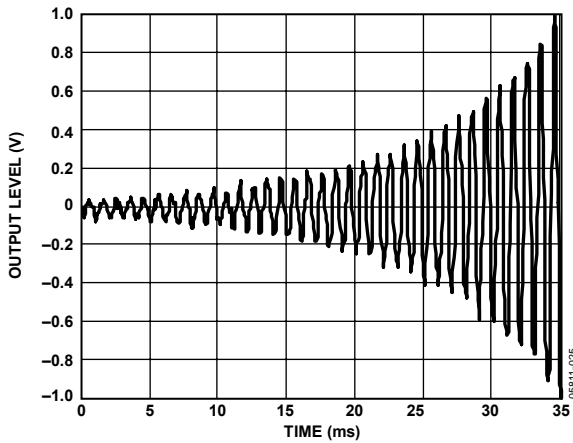
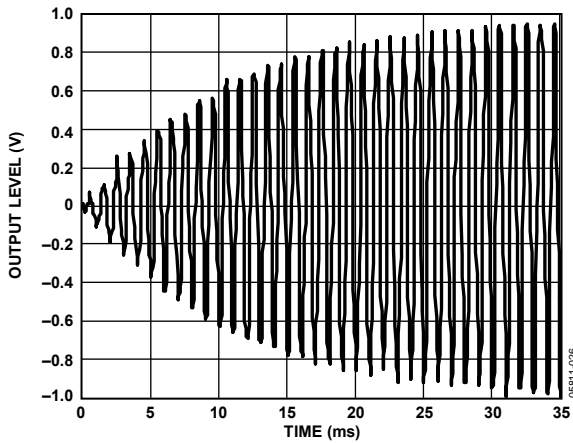
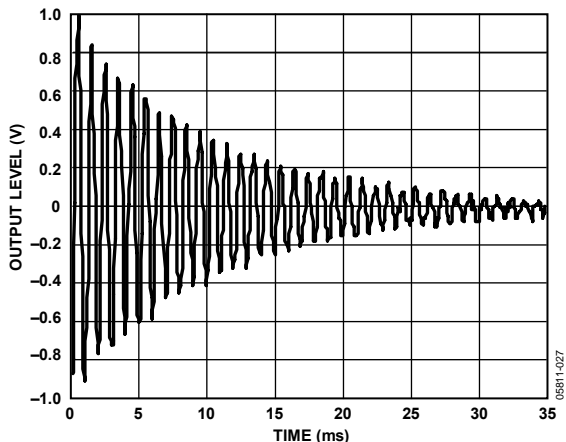

Figure 25. Slew RAM—Constant dB Update Increasing Ramp
Figure 26. Slew RAM—RC Update Increasing Ramp
Figure 27. Slew RAM—Constant dB and RC Updates Decreasing Ramp, Full Scale
An exponential update is accomplished by shifts and additions with a range from 6.1 ms to 1.27 sec (–60 dB relative to 0 dB full scale). When the ramp type is set to 01 (constant dB), each step size is set to the current value in the slew data. When the ramp type bits are set to 10 (RC), the step size is equal to the difference between the values in the target RAM and the slew RAM (see Figure 25, Figure 26, and Figure 27).